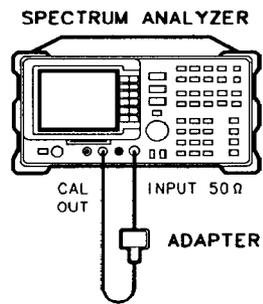

Figure 2-17. CAL AMPTD Adjustment Routine Setup
1. Connect the CAL OUT to the INPUT 50 Ω (*Option 001*: INPUT 75 Ω) using a CAL cable. See Figure 2-17.